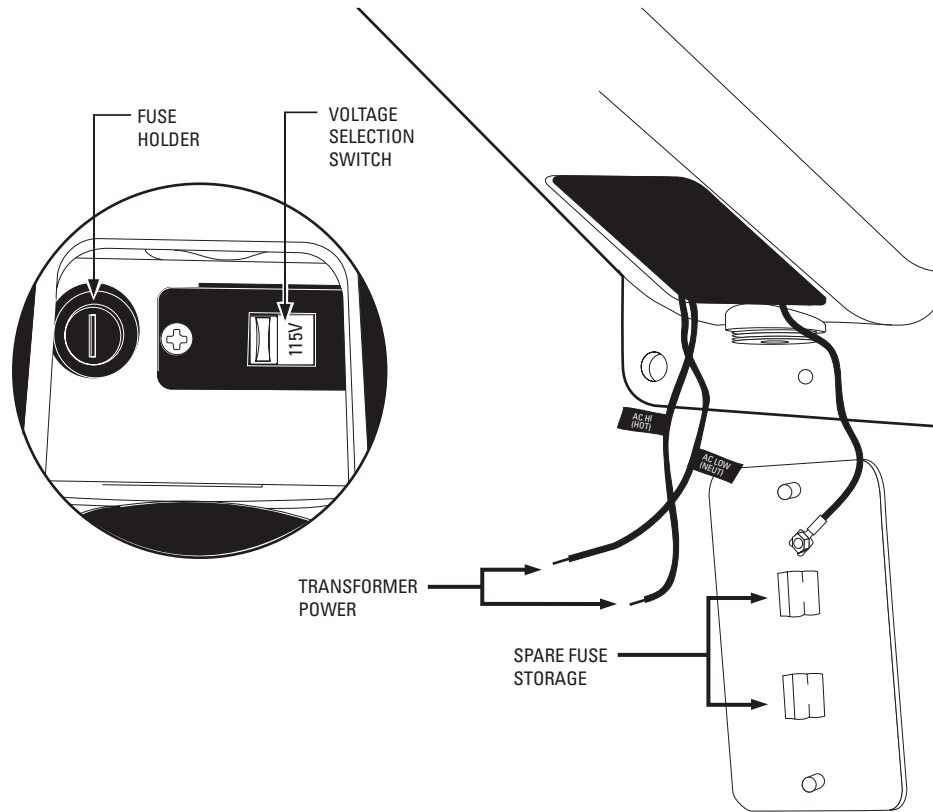

Figure 2. Voltage Selection Switch and Fuse Holder Location
3. The transformer is preset to operate at 120 VAC. If necessary, change the voltage selection switch to operate at 230 VAC (refer to Figure 2).
4. Install the proper fuse for the set voltage (refer to Figure 2). For 120 VAC, use the 1.6 A, 120 VAC, fast-acting fuse; or for 240 VAC, use the 500 mA, 240 VAC, fast-acting fuse. The fuse holder is located to the left of the voltage selection switch.